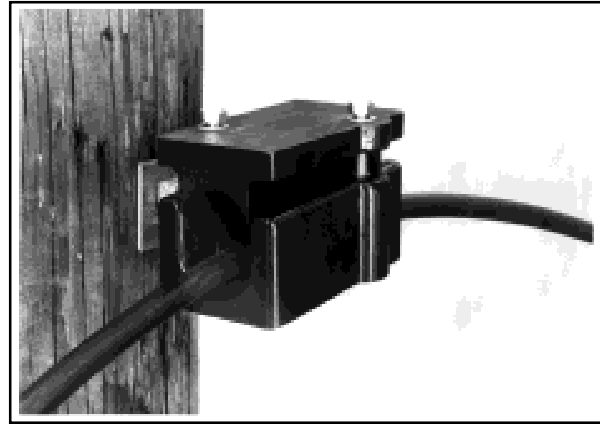

FIGURE 9
6.02 Temporarily attach the keeper to the body by engaging only a few threads of the bolts into the threaded inserts in the body. This supports the keeper approximately an additional 1" above the body and allows enough room for the cable, stringing rope or pulling-in grip to travel through the body. (Figure 9)